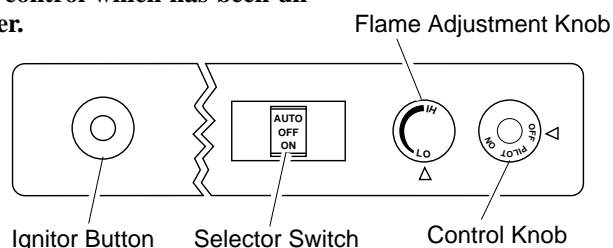

Figure 33 - Control Knob and Ignitor Button Location (Shown as Supplied, No Control Options)
5. Wait five (5) minutes to clear out any gas. Then smell for gas, including near the floor. If you smell gas, **STOP!** Follow "B" in the safety information. If you don't smell gas, go to the next step.
6. Press in and turn control knob counterclockwise  to the PILOT position. Press in control knob for five (5) seconds (see Figure 33).